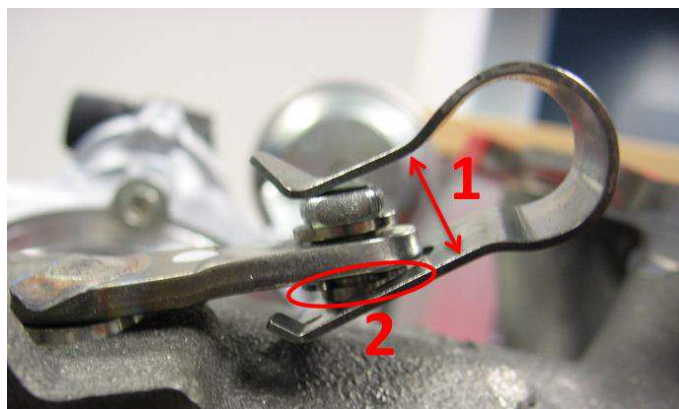

**Figure 6.** (1) Maximum opening of clip, (2) Position of original circlip
6. After fitting the spring clip, check the position of the original circlip (Figure 6, 2) and correct it if necessary.